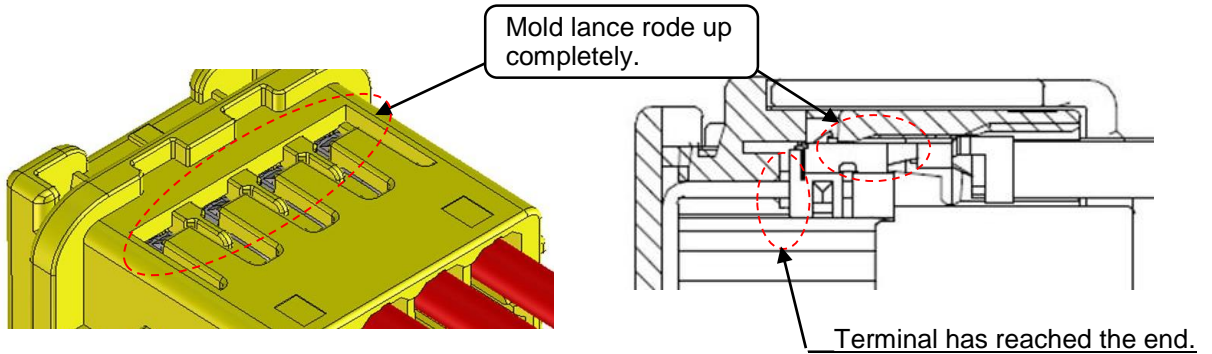

Fig.6-4 The case of correct insertion
- ④ After inserting the terminal, please confirm if terminals are not pulled out from receptacle housing by pulling wires lightly (with about 300g force)
- ⑤ After inserting all terminals, please confirm the position of terminal lance part by looking through window of receptacle mold lance. If they are inserted correctly, terminal lance is at the position where terminal lance rode up mold lance properly and you can confirm clearance by shaking them axially lightly.(Fig.6-4,6-5)